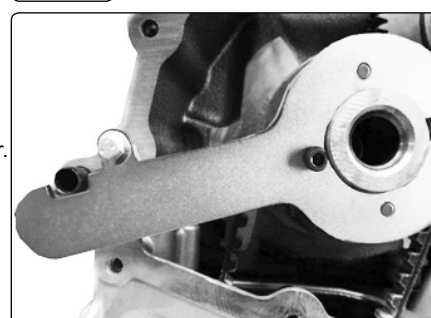
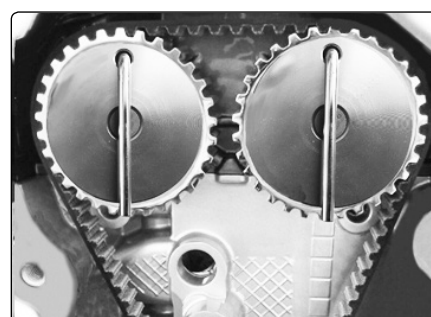

fig.3
fig.4
- 5.1.5. Remove the crankshaft pulley bolt and fit the VSE5640.02 Crankshaft Alignment Tool and secure to the cylinder block. (fig.3)
- 5.1.6. Assemble the VSE5640.03 and fit them onto the camshafts. Fit the VSE5640.04 locking pins ensuring they are correctly located into the datum points in the cylinder head. (fig.4)
- 5.2.1. Ensure the camshaft sprockets are correctly locked (fig.4). Fit the VSE5640.02 Crankshaft Alignment Tool and secure to the cylinder block. (fig.3)